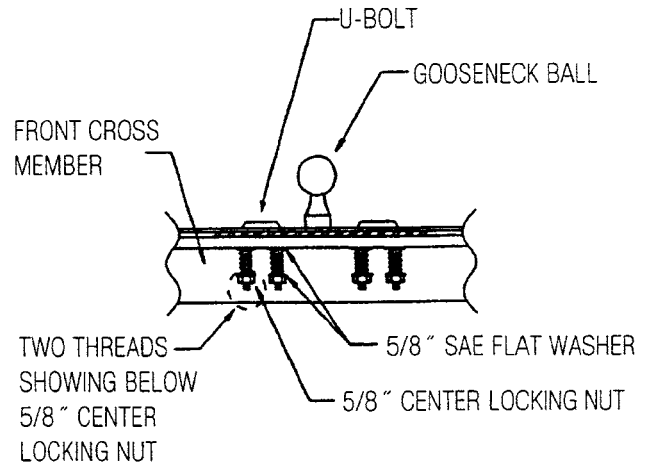

Fig. 3
19. To install the Safety Chain Mounting Kit (part no. BRB03 not included), it is necessary to drill four 3/4" holes through the truck bed floor. Review and follow the Installation Instructions for part no. BRB03 prior to installation of the Safety Chain Mounting Kit. Locate the four safety chain kit holes (marked "D" on the cutting template) in the front cross member. From inside the truck bed drill one hole in truck bed, in the center of each of the four mounting holes ("D"). From inside the truck bed, install the two U-Bolts, as shown in Fig. 3. From the underside of the truck, install four 5/8" SAE flat washers, four compression springs and two 5/8" center locking jam nut. Tighten all four 5/8" jam nuts until two full bolt threads protrude below the jam nut. **Make certain the U-bolts pass through the G9003/G9005, truck bed and the front cross member.**